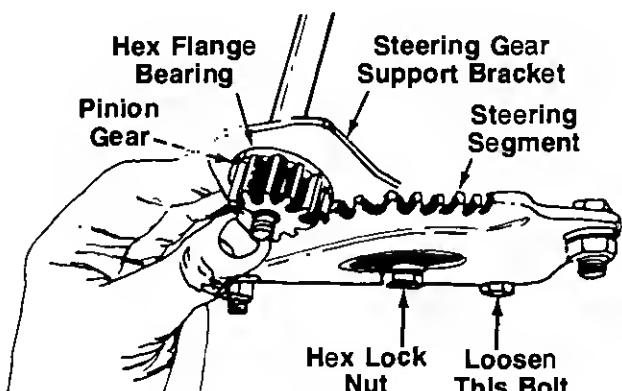

FIGURE 5.
6. Model 13504: Insert the steering shaft with assembled parts through the steering housing cover. The lower end of the shaft should extend through the hole in the front end of the steering gear support bracket (Ref. No. 12 on page 28). See figure 5.
8. Place hex flange bearing, flat side down, over the end of the steering shaft, and seat it into the steering gear support bracket. See figure 5.
12. Make certain the hex lock nut which secures the steering segment to the steering gear support bracket (shown in figure 5) is tightened so there is no play between the two parts. Do not overtighten as the steering segment must be free to turn.